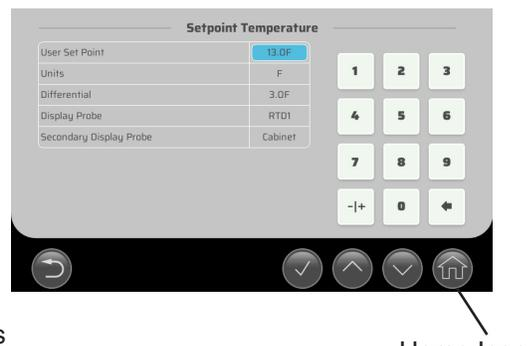

**Fig. 4**
- Press and release the center of the RTD1 probe temperature display. The temperature setting table is shown. See Fig. 4.